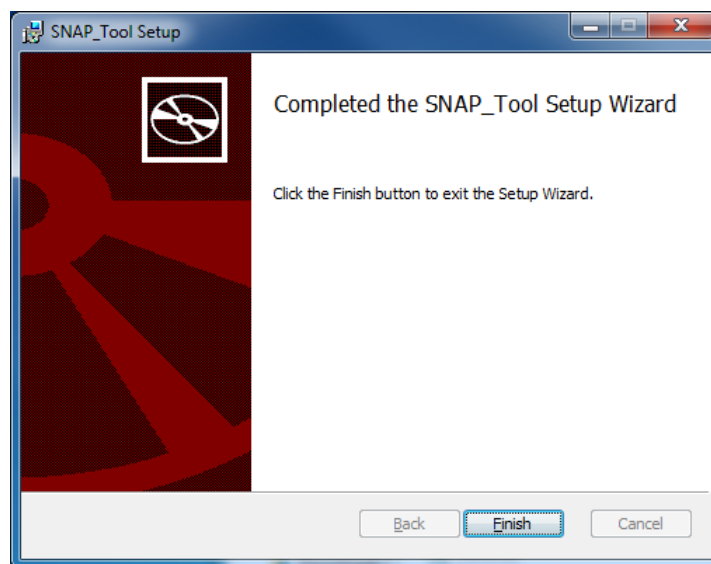

Figure 2.2. Snap Tool – Setup Finish
7. When the software installation is completed, press the **Finish** button to close the installation window (Figure 2.2).